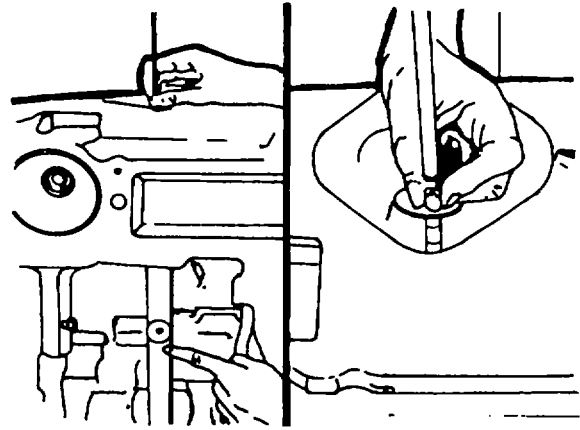

Figure 5-19. Oil Dosing Plug/Installing Oil Dosing Plug
2. Determine whether the oil dosing plug is fitted in the oilway of the middle bearing web (figure 5-19, left).
It should not be possible to push a piece of 3 mm gauge wire as far as the camshaft bore (figure 5-19, left).
3. If no oil dosing plug is fitted, drive one in with the bore at the front (figure 5-19, right).